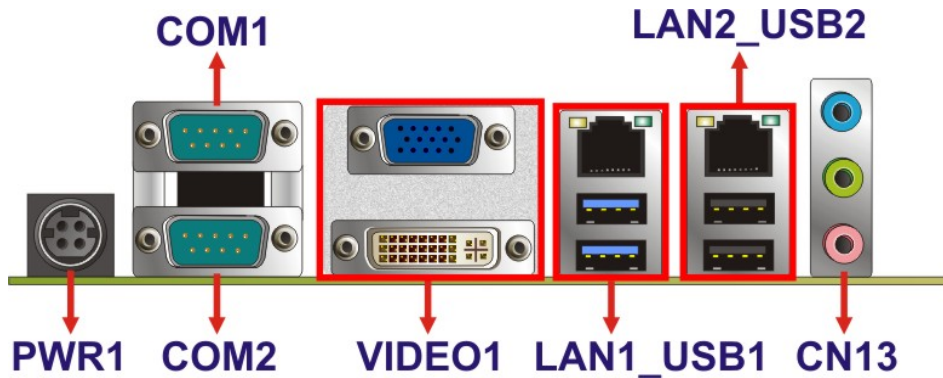

Figure 3-29: External Peripheral Interface Connector
CN Location:	See Figure 3-29
- CN Location:** See **Figure 3-29**
CN Location: See **Figure 3-29**